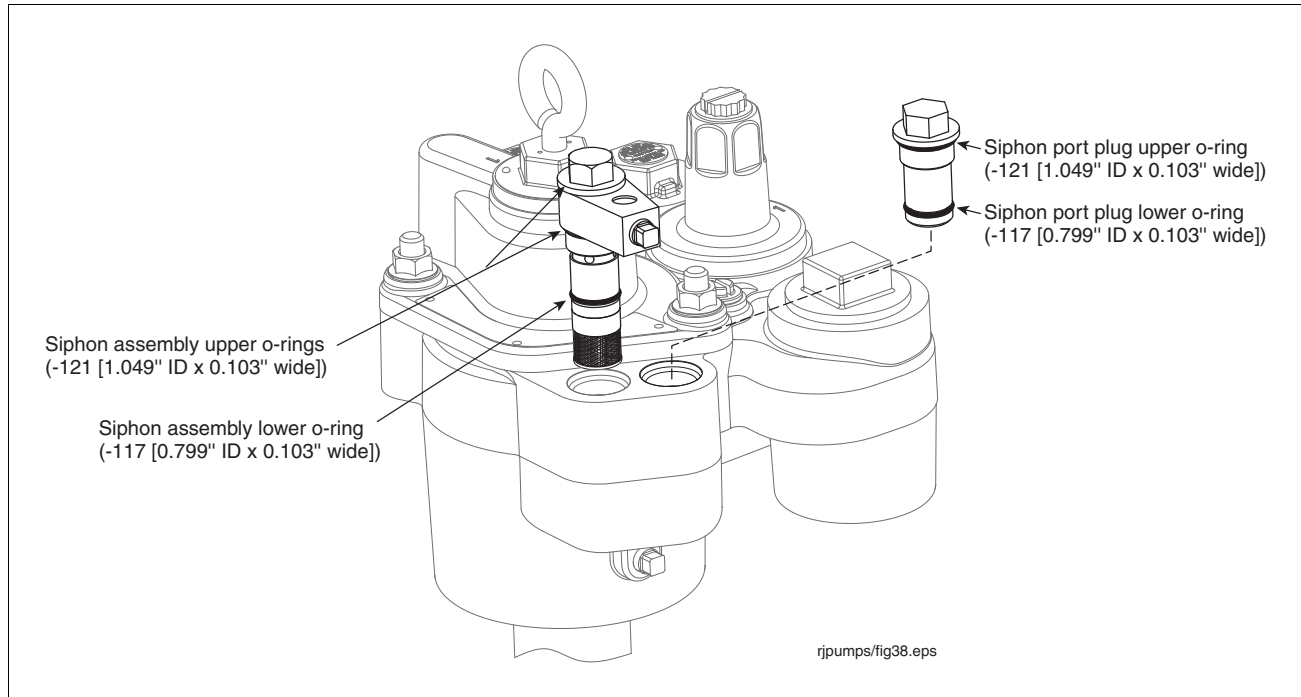

Figure 35. Inserting Siphon assembly into manifold
5. Insert the siphon cartridge into the siphon port (see Figure 35). Swivel the outlet port of the siphon in the desired direction, and then hand tighten the siphon's retaining hex body. Torque the body to 25 - 30 ft-lbs (34 - 41 N•m).